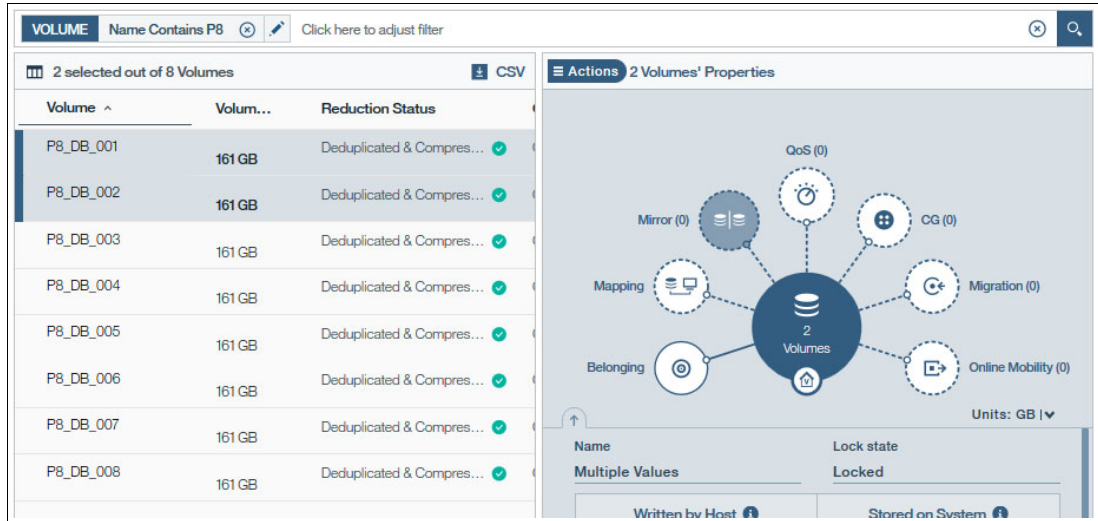

Figure 2-15 Selecting volumes for mirroring
When a mirror coupling is created, the first peer specified is the source for data to be replicated to the target system, so it is given the primary designation and the source role. The first peer can be, for example, the volumes or consistency group (CG) at site 1, as shown in Figure 2-15 on page 43.
Select the volumes in the Volume view and select **Mirror** in the Hub view, as shown in Figure 2-15 on page 43.